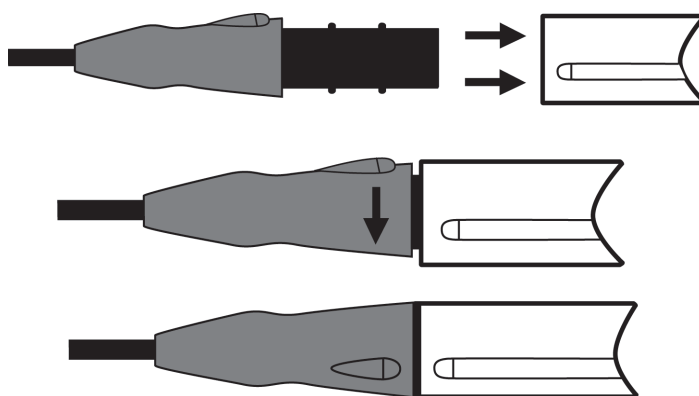

FIGURE 10
7. (Only when using VAPR Handpiece) Connect the VAPR Electrode to the Handpiece as shown in FIGURE 10. Once connected, the “ATTACH ELECTRODE” symbol flashing on the Generator display will change to the default settings for that Electrode style.